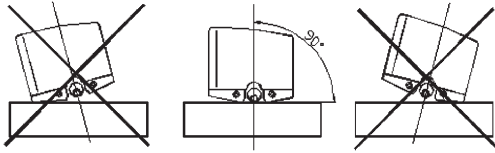
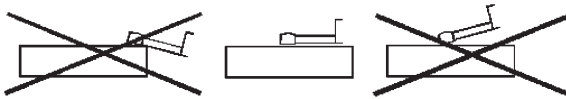

Figure 2-1 Front View
Figure 2-2 Side View
- Refer to Figure 2-1 and Figure 2-2 to place the instrument correctly, stable and reliably on the surface to be measured;